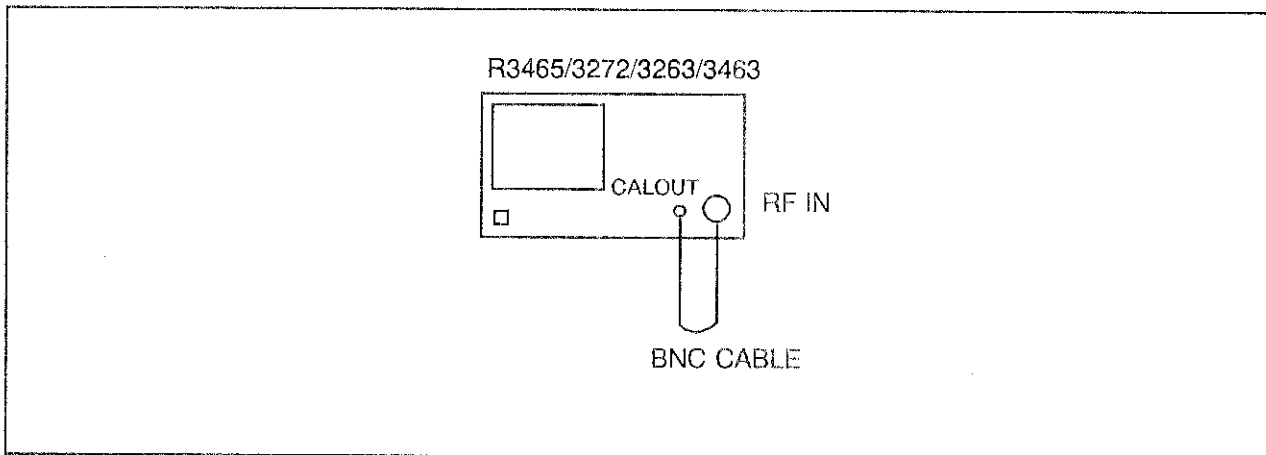

Figure 1-5 Resolution Bandwidth Accuracy/Selectivity Setup
- (1) Connect the R3465/3272/3263/3463 CALOUT to the RF IN as shown in Figure 1-5.
- (2) Press SHIFT , PRESET keys and set the controls as follows: